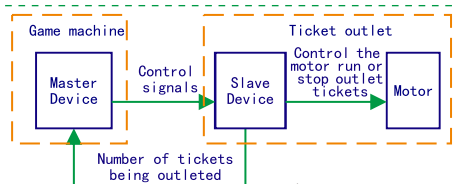

Figure 2
- 3.The relationship of the Master inputting control signal, the Slave outputing signal, and motor status is shown in Figure 3. The workflow is shown in Figure 2.